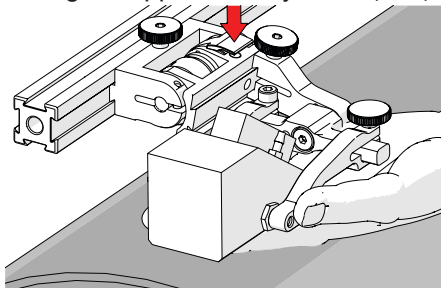

Fig. 78 - Lift and press latch button
3. Lift probe slightly and press latch button (Fig. 78) to apply spring pressure to the wedge.